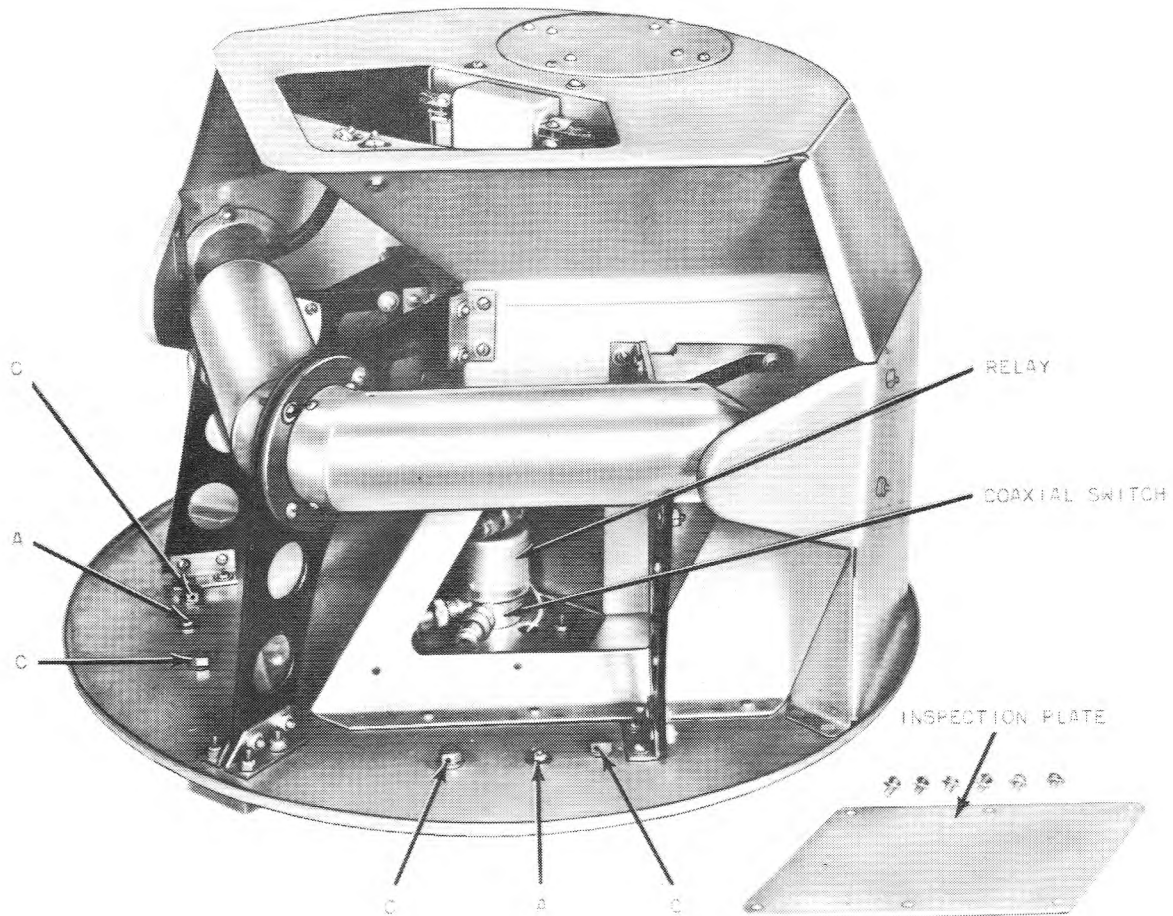

Figure 6-7. Antenna Assembly AS-655/ALA-6, Coaxial Switch Detail (Typical)
remove the stop nuts which hold the mounting bracket (figure 5-14) to the housing of the Drive unit. For Antenna AS-655/ALA-6, remove the eight hex-headed screws, marked c in figure 6-7, which hold the antenna to its disc-shaped mounting plate. Be careful to save the spacing washers between the two disc plates. Then, take out the four screws which hold the mounting plate to the drive. When replacing the mounting plate later be sure to place it with the counter-bored side toward the Drive unit.
Step 2. Disconnect the two short pieces of coaxial cable from the coaxial switch (figure 6-7), noting that the cables are not crossed.